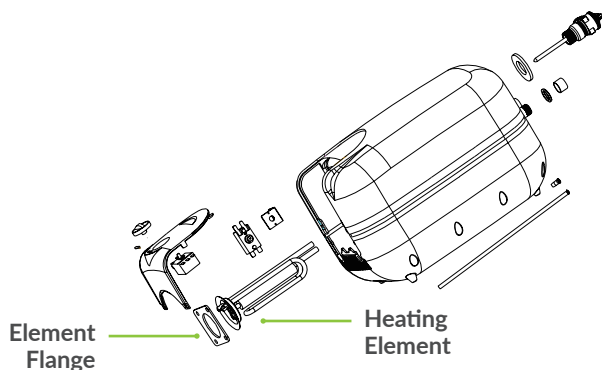

FIGURE 10.
3. Remove the two screws from the mounting bracket; see Figure 10, being careful not to drop the screws into the unit, as they will be difficult to retrieve. Remove bracket and set screws aside.
**NOTE: Replacement elements must(1) be the same voltage and (2) no greater wattage than listed on the model rating plate affixed to the water heater.**
15. Replace the mounting bracket with the center rise facing outward and the screw hole up, see Figure 10.